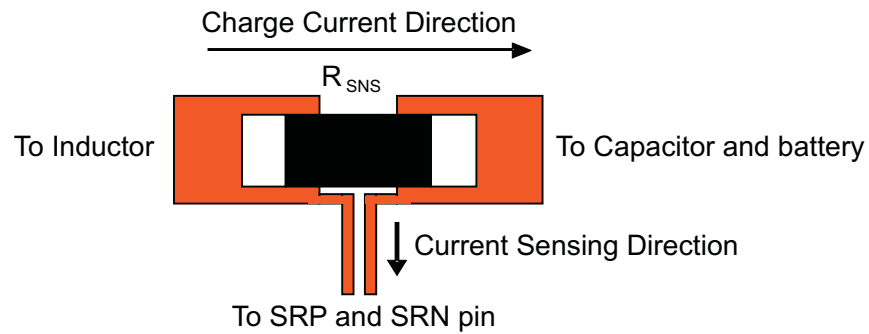

Figure 28. Sensing Resistor PCB Layout.
4. The charging current sensing resistor should be placed right next to the inductor output. Route the sense leads connected across the sensing resistor back to the IC in same layer, close to each other (minimize loop area) and do not route the sense leads through a high-current path (see Figure 28 for Kelvin connection for best current accuracy). Place decoupling capacitor on these traces next to the IC